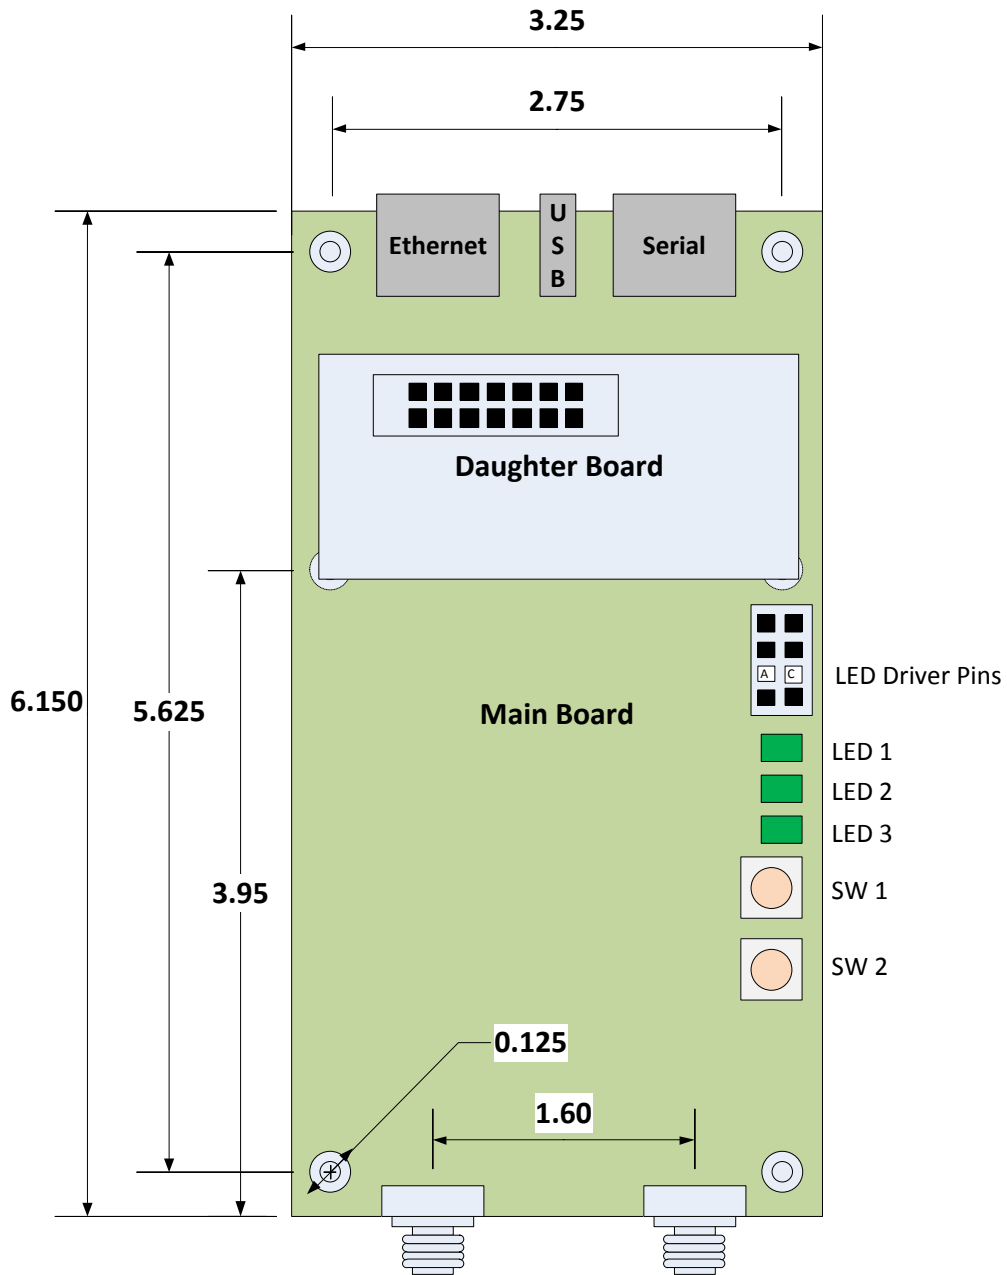

Figure 1
The Tropos 1410-B supports both Ethernet and serial communications (RS-232 or RS-485, configurable) for client devices. The serial interfaces support the DNP3 protocol. Connection to these ports is through RJ-45 connectors. One RJ-45 connector supports the Ethernet port and power, and the second RJ-45 connector supports the serial interfaces and power (wiring diagrams for the RJ-45 connectors are shown in Figure 1).
Integration of the 1410-B requires physically mounting the unit in a safe and reliable manner, powering the unit, connecting the data interfaces and connecting the antennas. The following sections describe these steps. Figure 1 is an outline drawing of the 1410-B showing the location of components referred to in the following sections.
The 1410-B main board is 6.150" long x 3.250" wide. With the daughter board installed the 1410-B is approximately 1" high. There are six mounting holes on the 1410-B main board designed for 4-40 screws (see Figure 1). The 1410-B should be mounted on stand-offs or bosses so that there is a minimum of 0.5" of clearance on all sides of the unit.
1. The integrator can provide 10-28 VDC power to the 1410-B. This power is then regulated by the 1410-B. This is the preferred method of powering. Power can be applied to the either the Ethernet or serial RJ-45 connector (see Figure 1). The pin assignments for these ports are shown in Tables 1 and 2.
Two pushbutton switches are mounted on the 1410-B (see Figures 1 and 2). Their function is:
Three LEDs are installed on the 1410-B (see Figures 1 and 2). Their function is:
The 1410-B can drive an external LED (for example, an LED mounted on the OEM product and visible from the outside of the package). Figure 1 shows the LED Driver Pins marked A (anode) and C (cathode).